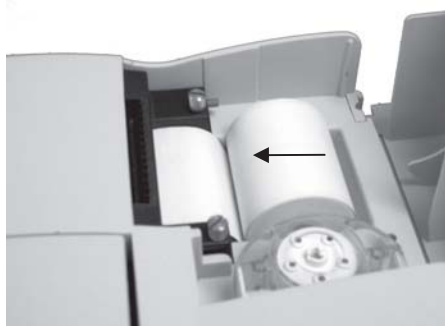

Fig. 6-39 Insert New Roll
4. With the OPTI R powered on, place a new roll of paper in the chamber and thread it into the feeder. Use the diagram in the paper well to make sure the paper is inserted correctly (Fig. 6-39).